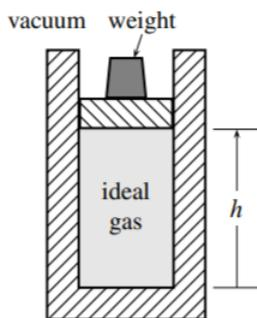

Figure 3.25
3.6 Figure 3.25 shows an ideal gas confined by a frictionless piston in a vertical cylinder. The system is the gas, and the boundary is adiabatic. The downward force on the piston can be varied by changing the weight on top of it.